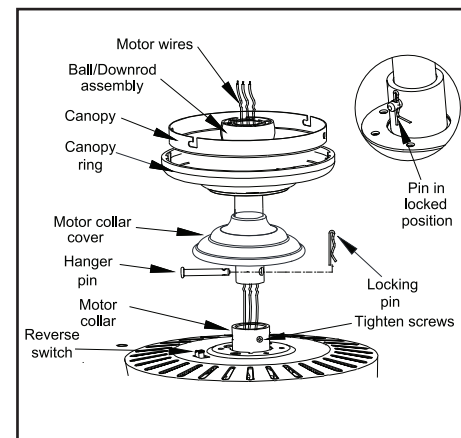

Figure 7
4. Route the wires exiting the top of the fan motor through the decorative motor collar cover then the canopy ring. Make sure the slot openings are on top. Route the wires through the canopy and then through the ball/downrod assembly. (Figure 7)
6. Align the holes at the bottom of the downrod with the holes in the collar on top of the motor housing. (Figure 7) Carefully insert the hanger pin through the holes in the collar and downrod. Be careful not to jam the hanger pin against the wiring inside the downrod. Insert the locking pin through the hole near the end of the bolt until it snaps into its locked position, as noted in the circle inset of Figure 7.
The fan shipped from the factory with the reversing switch positioned to circulate air downward. If airflow is desired in the opposite direction, turn your fan off and wait for the blades to stop turning, then slide the reversing switch (located at the top of the motor housing, refer to figure 7 on page 4) to opposite position, and turn fan on again. The fan blades will turn in the opposite direction and reverse airflow.